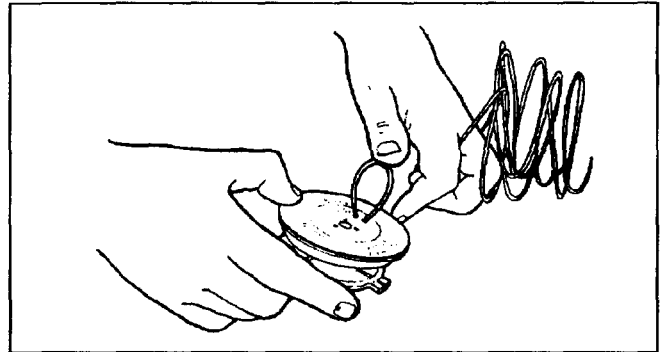

Fig. 15
1. Loop approximately 25 ft (7.6 m) of new trimming line into two equal lengths. Insert each end of the line through one of the two holes in the inner reel (Fig. 15). Pull the line so the loop is as small as possible.